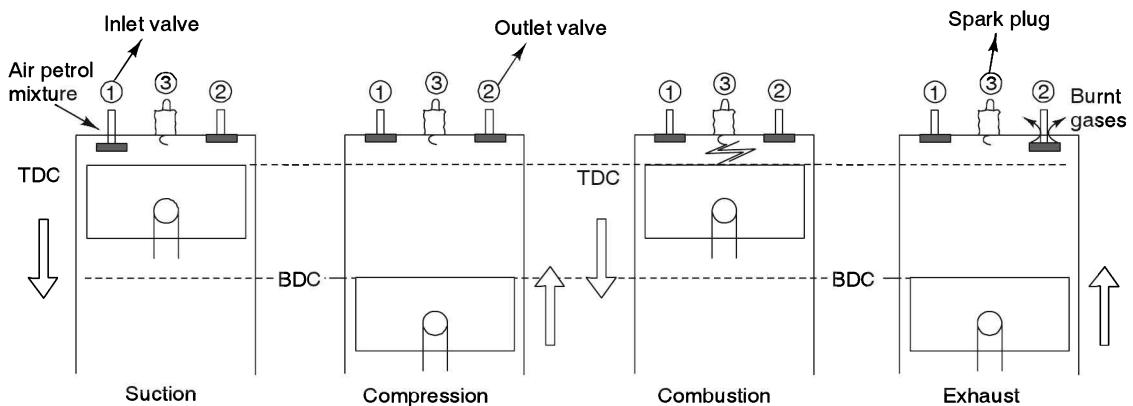

FIGURE 6.12 Four strokes of SI engine.
Spark ignition (SI) engine has a carburettor for making air-fuel mixture and a spark plug to ignite the mixture. Four strokes of SI engines (Figures 6.12 and 6.13) are as follows: